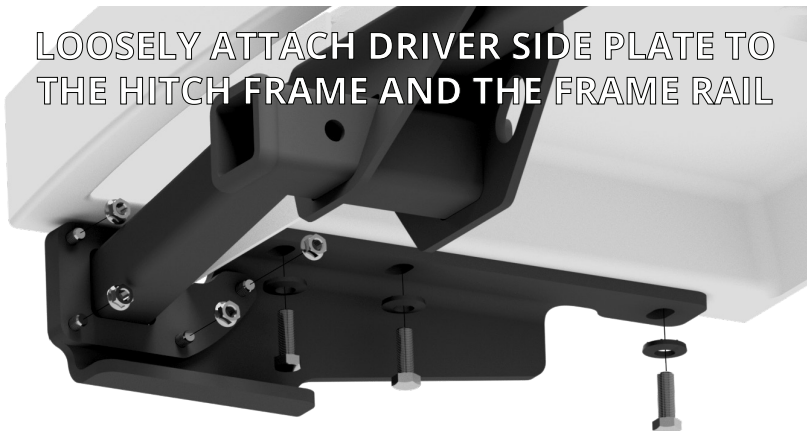

FIGURE B3: VIEW OF DRIVER SIDE PLATE
- Loosely attach the driver side plate to the hitch frame similar to Step 7. Attach the driver side plate to the vehicle, as shown in Figure B3. Hand tighten all of the hardware. Check that the hitch frame is centered in the vehicle and adjust if necessary.